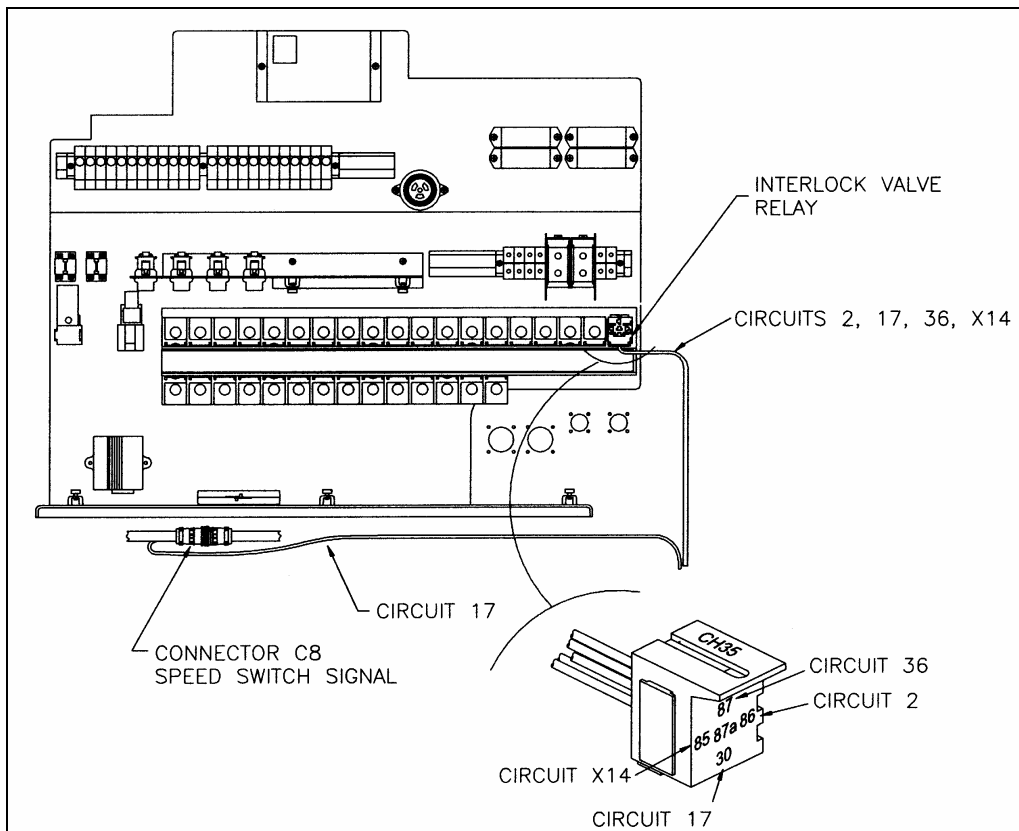

FIGURE 5: LOCATION OF RELAY INSIDE FRONT ELECTRICAL COMPARTMENT
4. Install interlock valve relay on relay support in the foremost R.H. side position (refer to figure 5).
- Connect this terminal to position 86 of relay base (refer to figure 5).